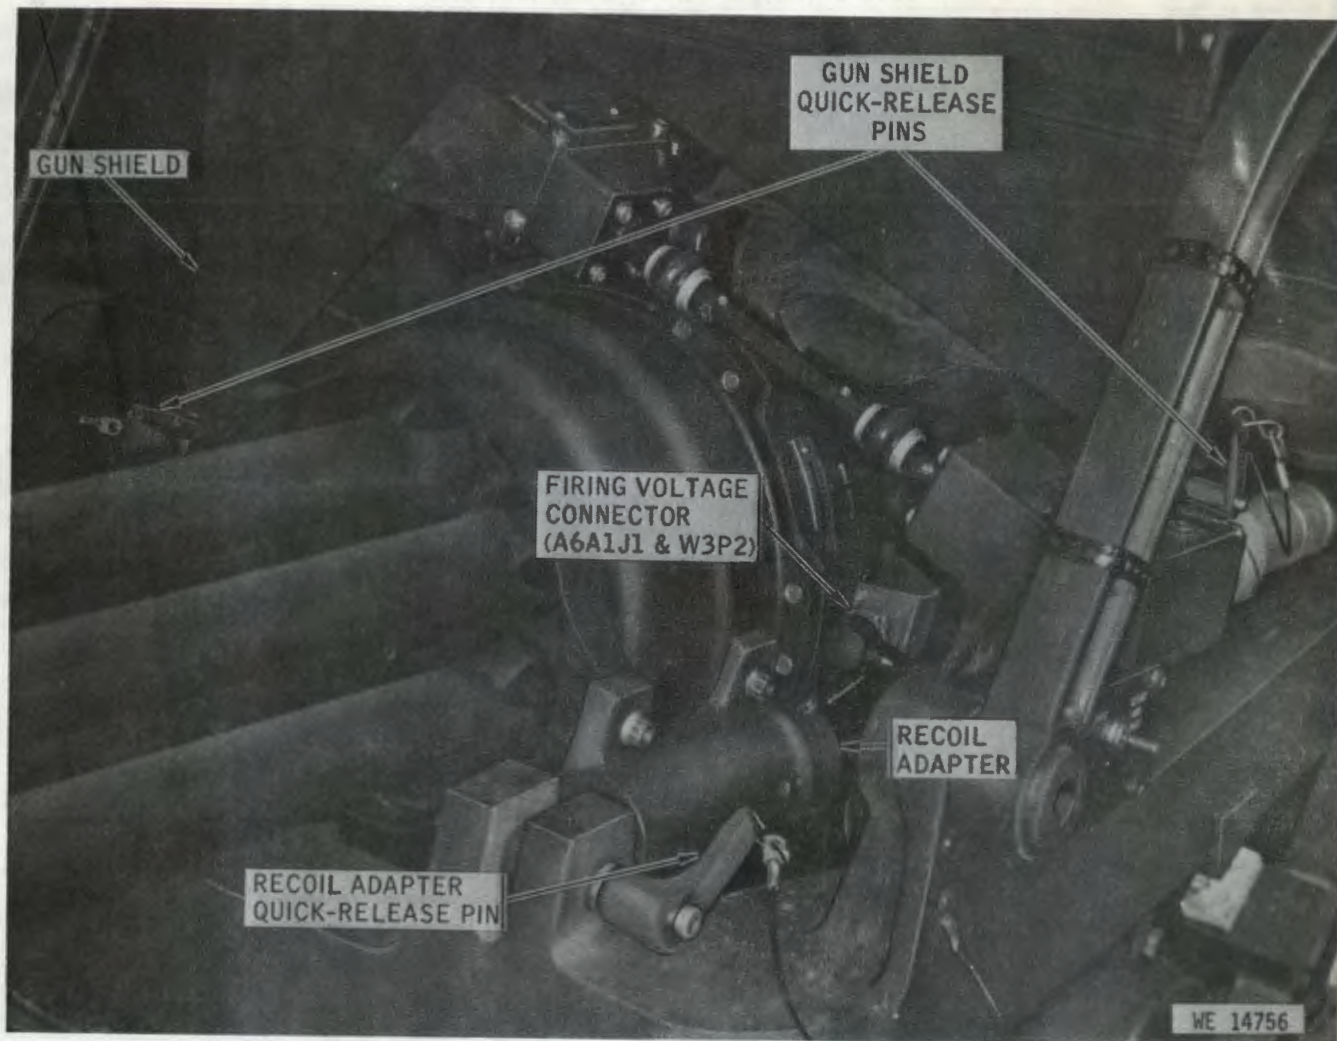

Figure 2-66. XM168 cannon XM157 mount component location.
(5) Check that the firing voltage connector is connected to the firing contact assembly and safety wired (fig. 2-66).
(6) Check for security of gun shield and recoil adapter quick release pins (fig. 2-66).
(7) Assure that the ammunition is free in the feed chute and that no obstruction appears in the ammunition case chute.